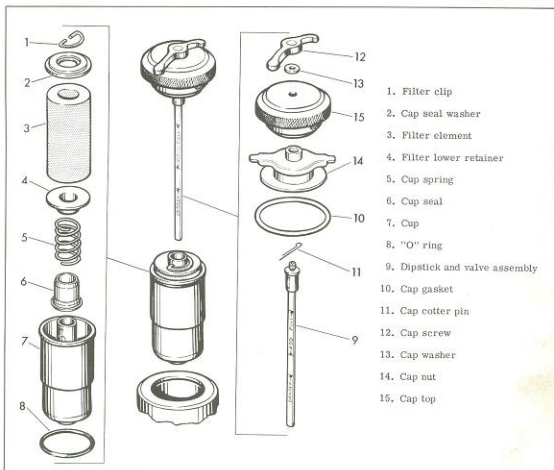

Figure 3A-2. Oil Tank Filter - Exploded View
**SERVICING OIL TANK CAP AND FILLER OPENING.** To disassemble, follow order shown in Fig. 3A-2. Assembly is reverse order of disassembly. Clean and inspect all parts. Replace any that are worn or damaged.
#### ELECTRA-GLIDE ENGINE OILING AND BREATHER SYSTEM (Fig. 3A-3, 3A-4 and 4A-4A)